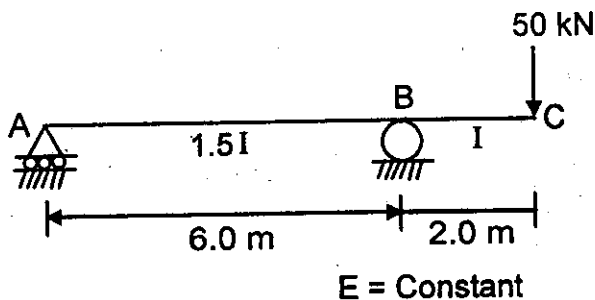

Fig. 3
3. (a) Determine the deflection and slope at the free end of the beam shown in Fig. 3 using conjugate beam method. Take  $E = 2.5 \times 10^4 \text{ N/mm}^2$  and  $I = 3.125 \times 10^9 \text{ mm}^4$ .